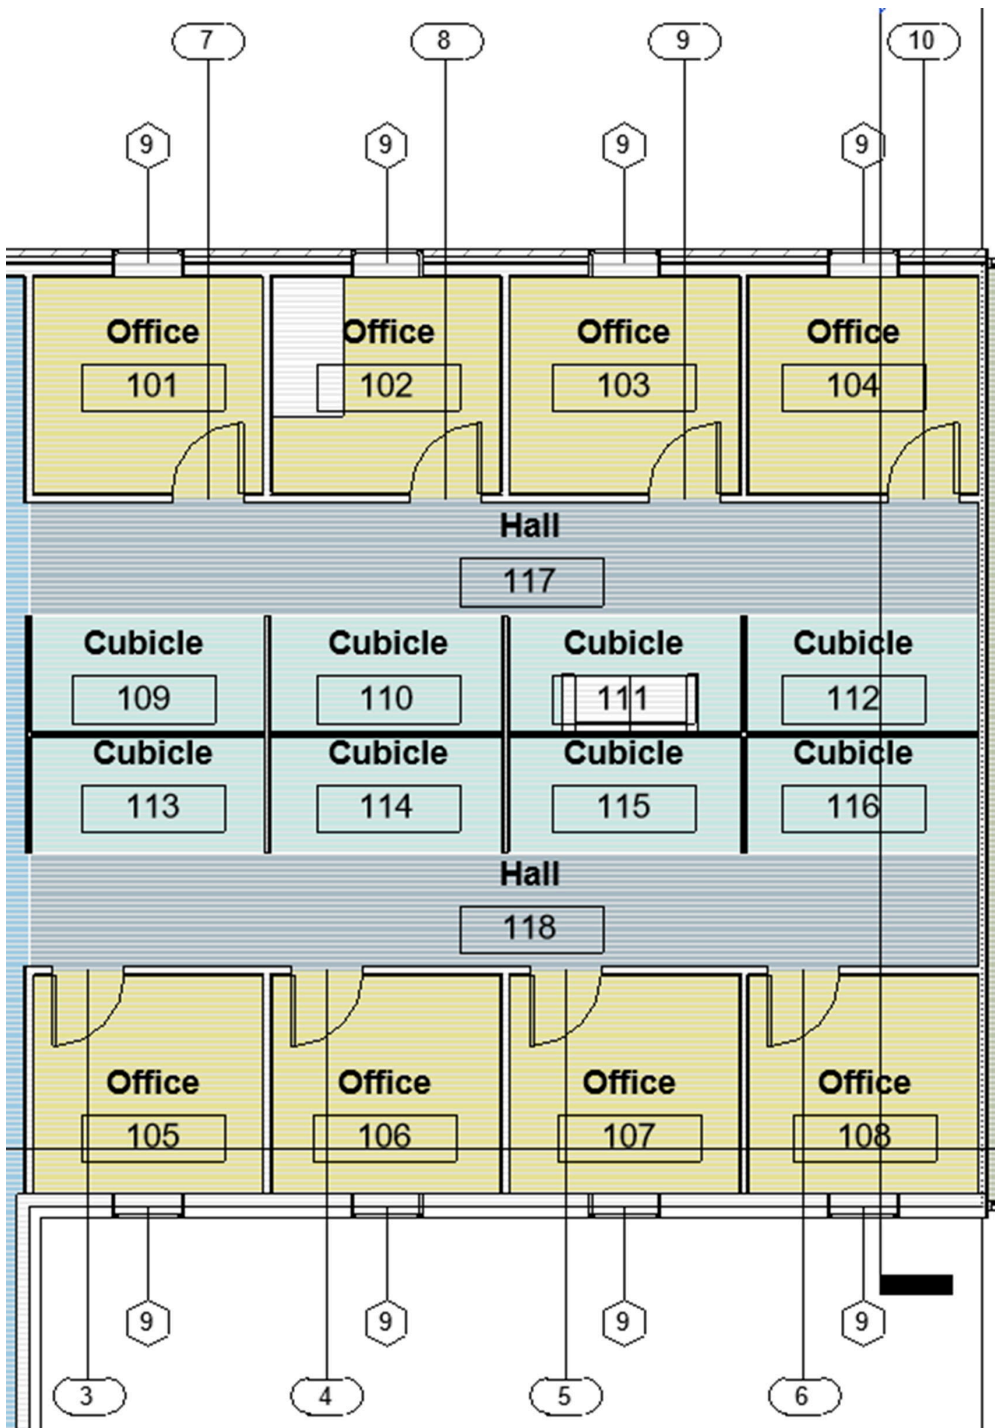

Figure 10.9 Doors and Windows Tags placed In Level 1 view
3. Click on each door and window as shown in Figure 10.9